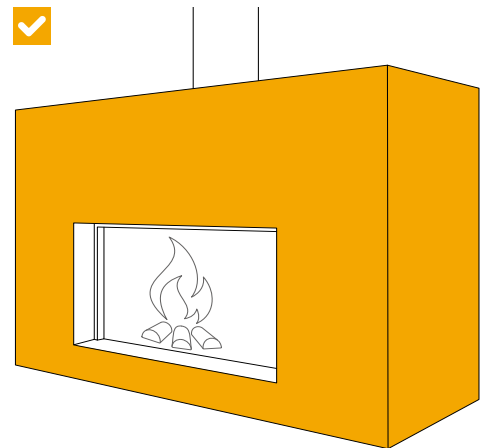
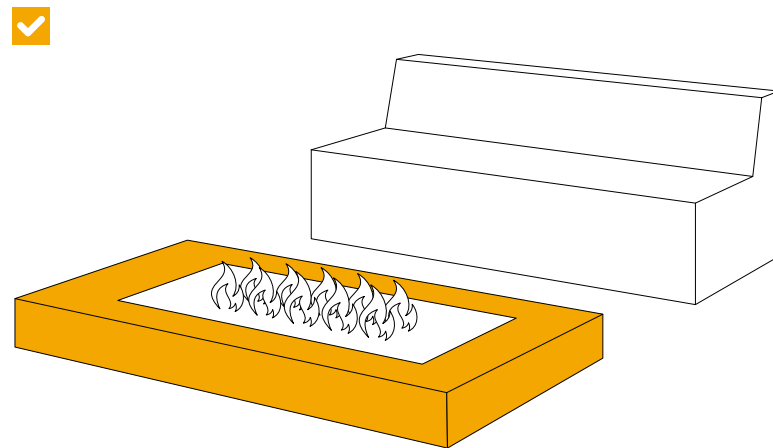

fig. 1
fig. 2
To ensure correct installation, the minimum distance between the countertop and the induction hob is 2 mm (fig. 1), which must subsequently be sealed with a suitable thermal silicon (fig. 2).
- It is therefore important to prevent the Infinity slab from coming into direct contact with the grill (or barbecue) by allowing a suitable amount of space in proportion to the size of the appliance and the high temperatures that can be reached and consequently spread to the surrounding area (fig. 1);
- Fill the joint between the slab and the grill (or barbecue) with thermal insulation or silicon (fig. 2);
Infinity slabs are perfectly suitable for covering the **front, side or upper part** and in general all the outer parts of the fireproof material used to create fireplaces (fig. 1 - fig. 2).